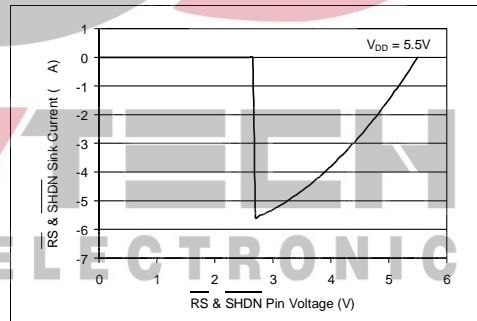

Figure 2-12: Reset & Shutdown Pins Current vs. Voltage
- 10: See Figure 2-12 for RS and $SHDN$ pin operation.
The Reset pin will set all potentiometers to mid-scale (Code 80h) if this pin is brought low for at least 150ns. This pin should not be toggled low when the CS pin is low. It is possible to toggle this pin when the SHDN pin is low. In order to minimize power consumption, this pin has an active pull-up circuit. The performance of this circuit is shown in Figure 2-12. This pin will draw negligible current at logic level 0 and logic level 1.
The Shutdown pin has a Schmitt Trigger input. Pulling this pin low will put the device in a power saving mode where A terminal is opened and the B and W terminals are connected for all potentiometers. This pin should not be toggled low when the CS pin is low. In order to minimize power consumption, this pin has an active pull-up circuit. The performance of this circuit is shown in Figure 2-12. This pin will draw negligible current at logic level 0 and logic level 1.